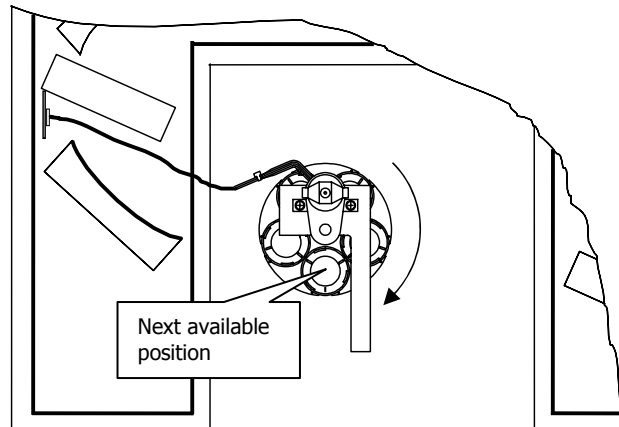

Figure 43 Filterwheel assembly on accessory baseplate
4. Place the assembly on the sample accessory baseplate (Figure 43).
The next available filter position is the next empty position working clockwise, as shown in Figure 43. Make sure there is at least one open beam position if possible.